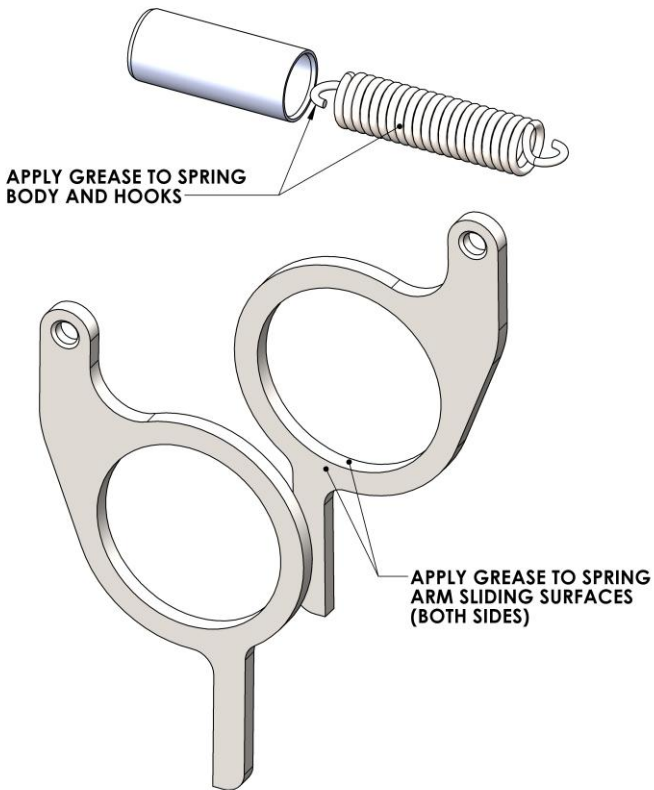

Figure 30: Apply grease to spring arm sliding surfaces, spring body, and spring hooks
27. Prepare the new spring for use. Apply a light coat of grease to spring body and spring arm retention holes as shown in Figure 30.
28. Apply a light coat of grease to the sliding surfaces and bores of the spring arms as shown in Figure 30.